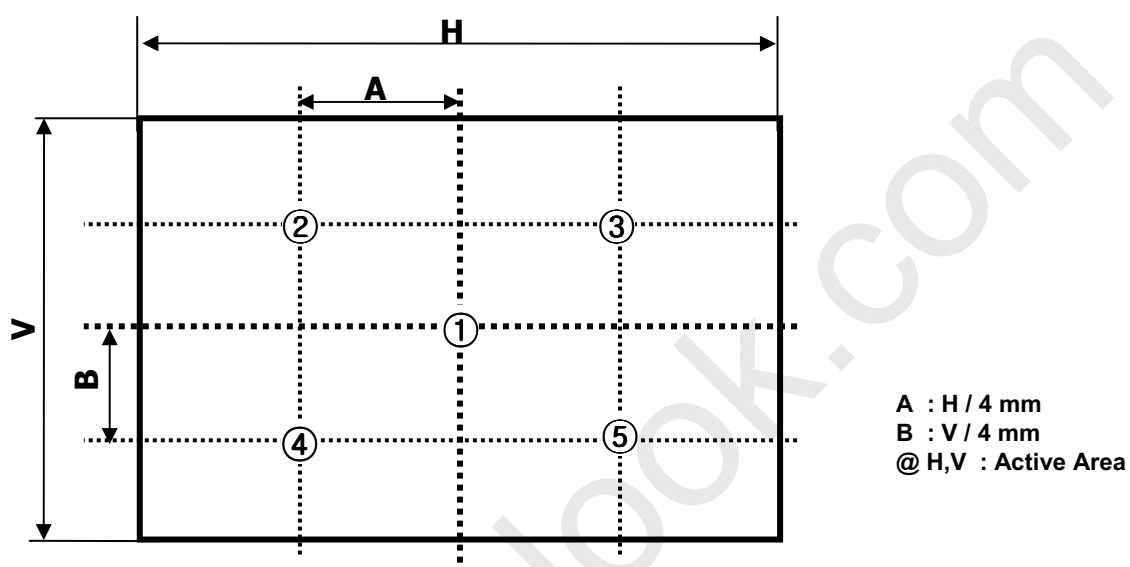

FIG. 2 5 Points for Luminance Measure
2. Surface luminance are determined after the unit has been 'ON' and 1 Hour after lighting the backlight in a dark environment at 25±2°C. Surface luminance is the luminance value at center 1-point across the LCD surface 50cm from the surface with all pixels displaying white. For more information see the FIG. 2.
For more information, see the FIG. 2.